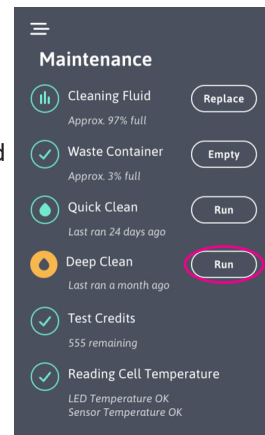

Figure 38
1. Press Deep Clean “Run” button in the Maintenance sub-menu to start a Deep Clean (Figure 38). The analyzer will check for sufficient bottle volumes and prompt to replace if insufficient. If sufficient volume, the analyzer will prompt user to insert the Cleaning Solution.